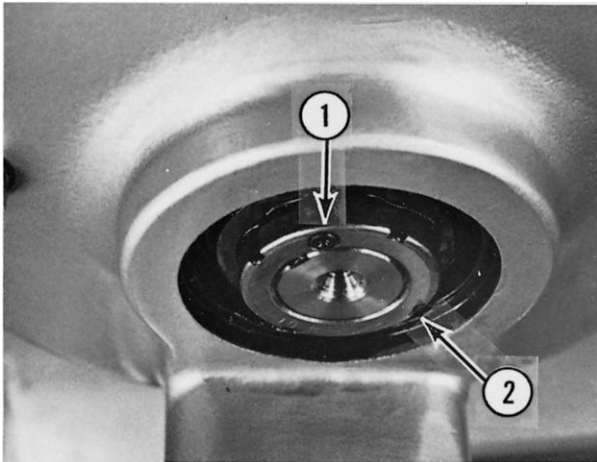
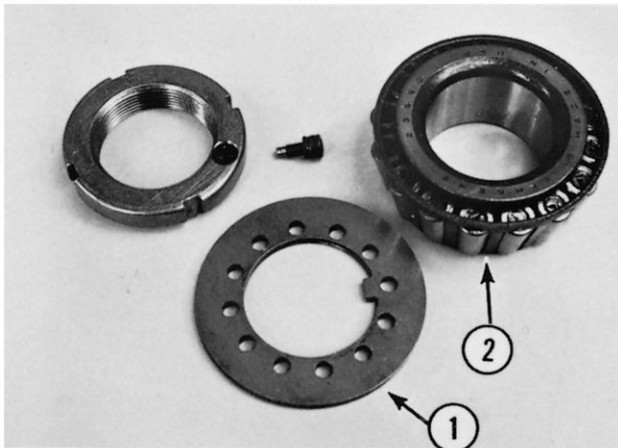

Fig. 10-4
Fig. 10-5
I. Remove the special cap screw (1, Fig. 10-4).
J. Remove the locknut (2, Fig. 10-4), tongue washer (1, Fig. 10-5) and the lower roller bearing (2, Fig. 10-5).